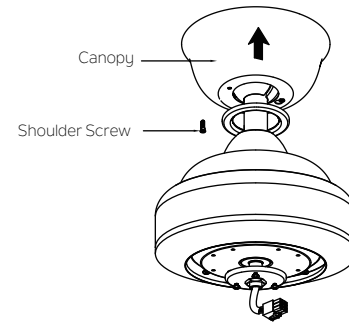

Fig. 14
Step 2. Assemble canopy by rotating key slot in canopy over shoulder screw in mounting bracket. Reinstall the shoulder screw that was previously removed, then retighten two shoulder screws securely. (Fig. 14)